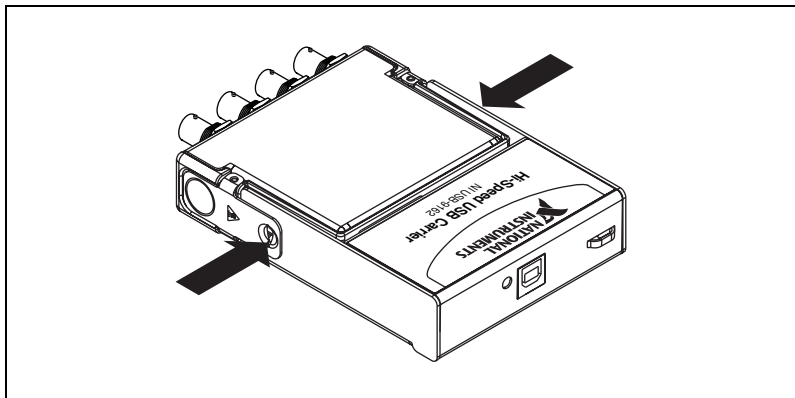

Figure 4. Locking Module into Place
5. Press firmly on the connector side of the NI 9234 module until the latches lock the module into place, as shown in Figure 4.